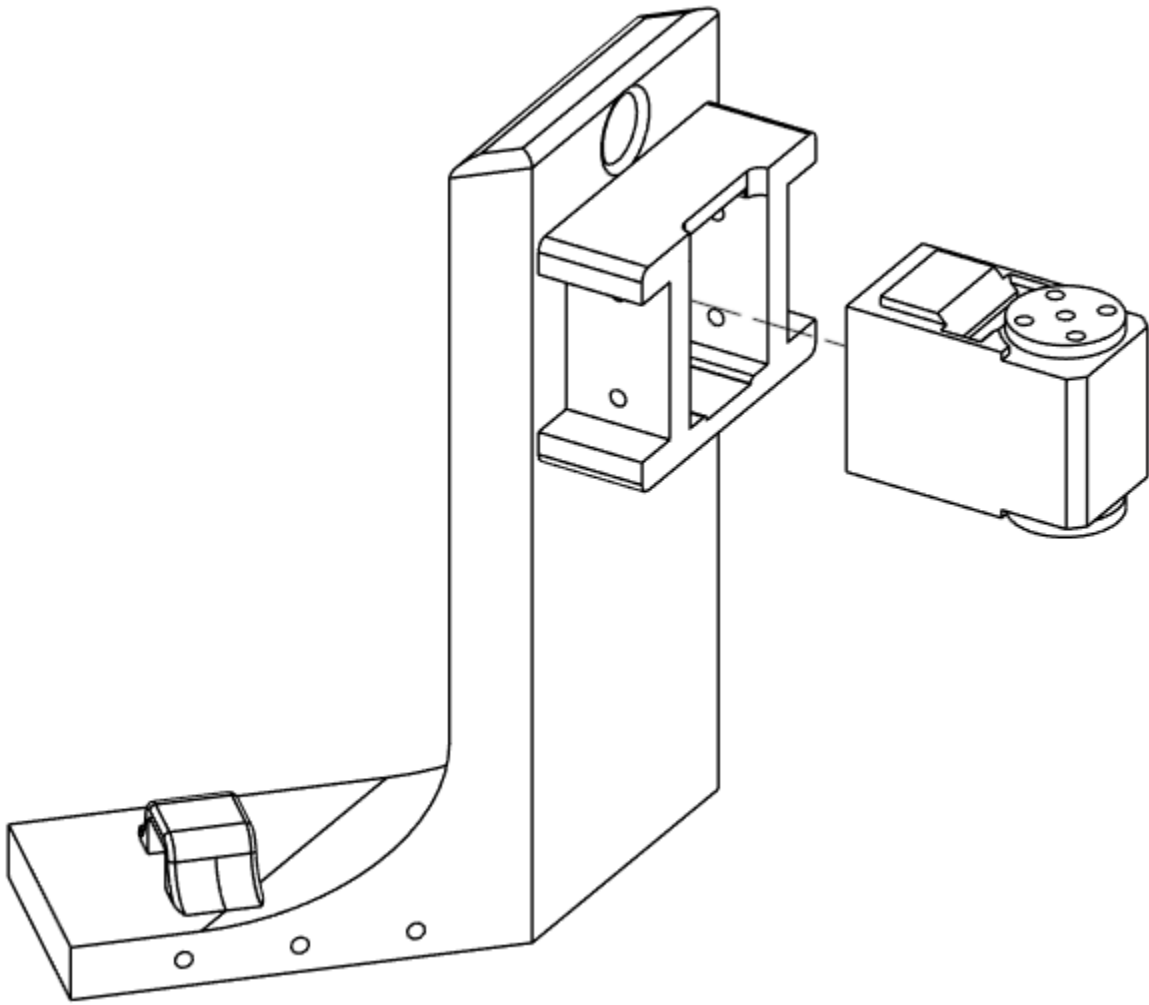

Figure 3.1 - Teleop Motor 1 Assembly
1. Insert Teleop Motor 1 into Teleop Arm Base as shown in Figure 3.1